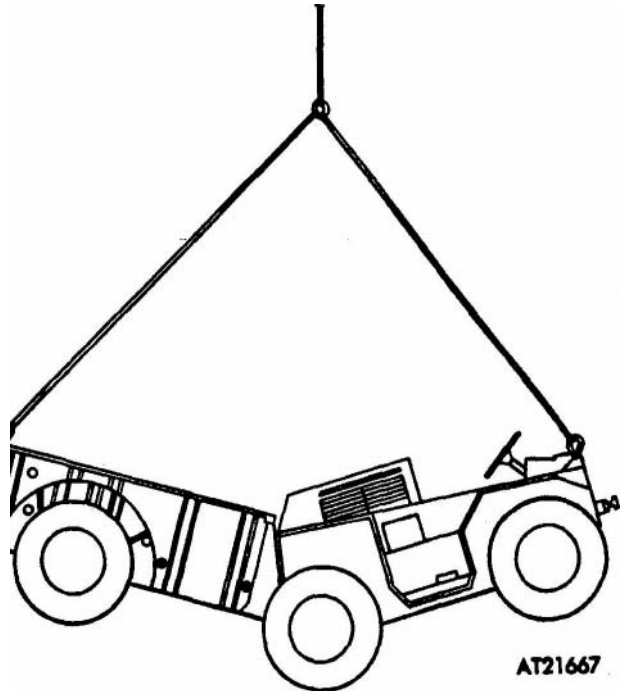

Figure 2-1. Hoisting M561 cargo truck
(1) When transported by railway carrier, position flatcars on an isolated track or blocked siding, post end approaches to train with blue flag or light (to signify that men are working and that siding may not be entered).
(2) Position hoisting vehicle (capable of lifting a minimum of 11,000 pounds) so that boom point and hook are centered over tractor and carrier (fig 2-1).
(3) Remove paulin cover (if installed) and all **tie-downs**, blocking, and stripping that secures cargo truck to bed of carrier.
(4) Attach lifting sling to lifting eyes and remove cargo truck from bed of carrier, and position on *as nearly* level ground *as possible*.